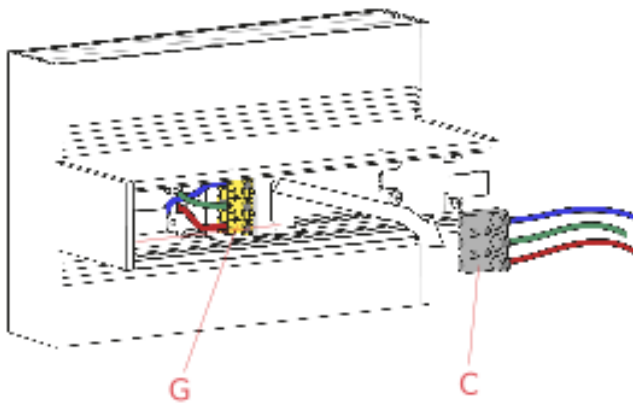

Fig.12
Connect the female connector (C) to the male connector (G). (Fig.12)